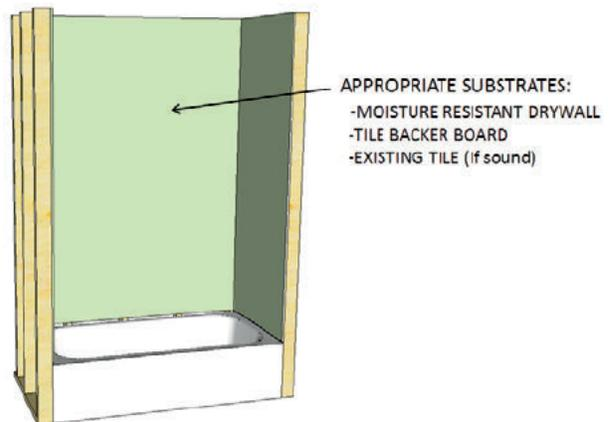

Figure 2 – Wet Wall Substrates
- Check to assure that an appropriate substrate is installed. For potentially wet applications, be sure the appropriate substrate is used. (See Figure 2).